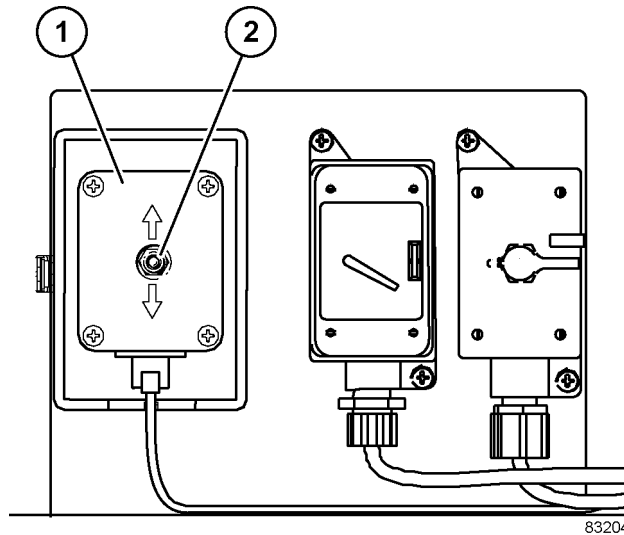

FIGURE 3-16. GROUND LEVEL CONTROL BOX
Ground level control box (1, Figure 3-16) is located next to the ground level ladder light switch. Toggle switch (2) lowers and raises the ladder.